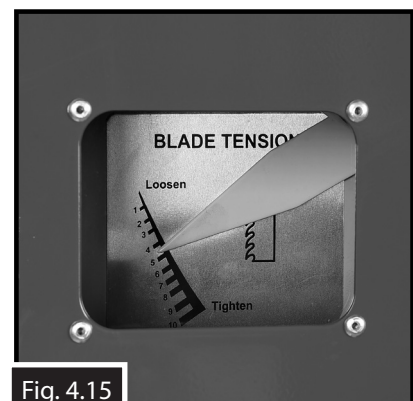

Fig. 4.15
8. Note what the tension gauge reads. Use that as a guide for tensioning that specific blade in the future.. (Fig. 4.15)